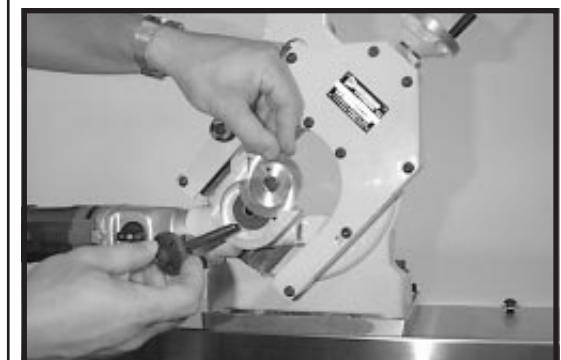

Figure 4
6. Place blade in correct rotation (counter clockwise) (Figure 4)